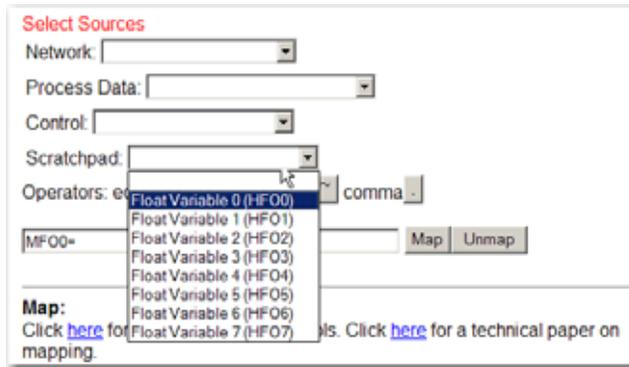

FIG. 238 MAPPING DISPLAY/SELECTING SOURCE - HFO0 (FLOAT VARIABLE)
- Click on Float Variable O (HFO). (See Fig. 238)